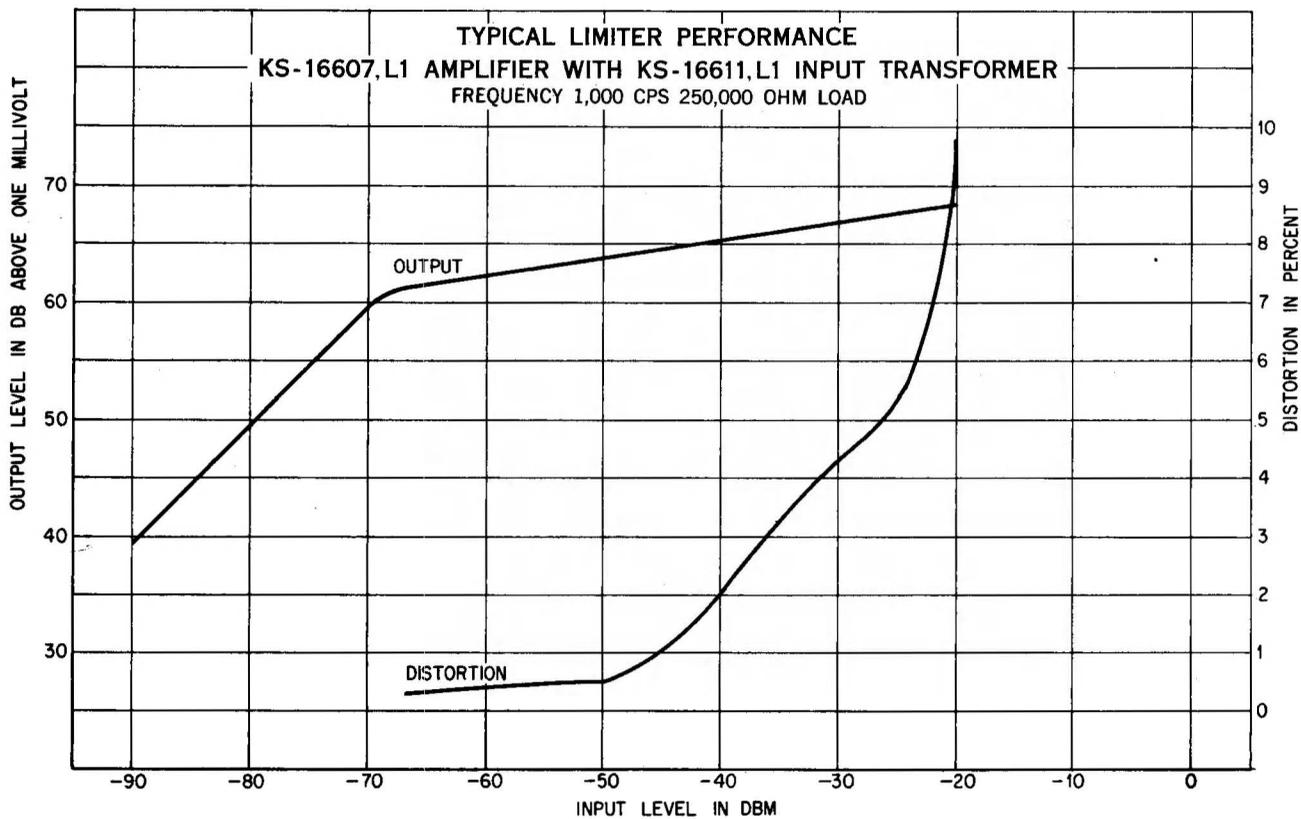

Fig. 3 – Distortion and Limiting Characteristics
2.03 The distortion and limiting characteristics of the amplifier are shown in Fig. 3. The conditions under which the data were obtained are also indicated.